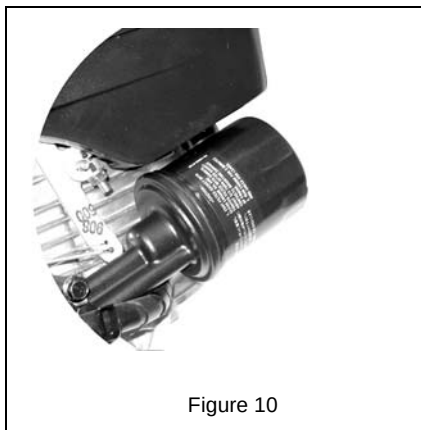

Figure 10
3. Turn filter counterclockwise to remove (Figure 10).